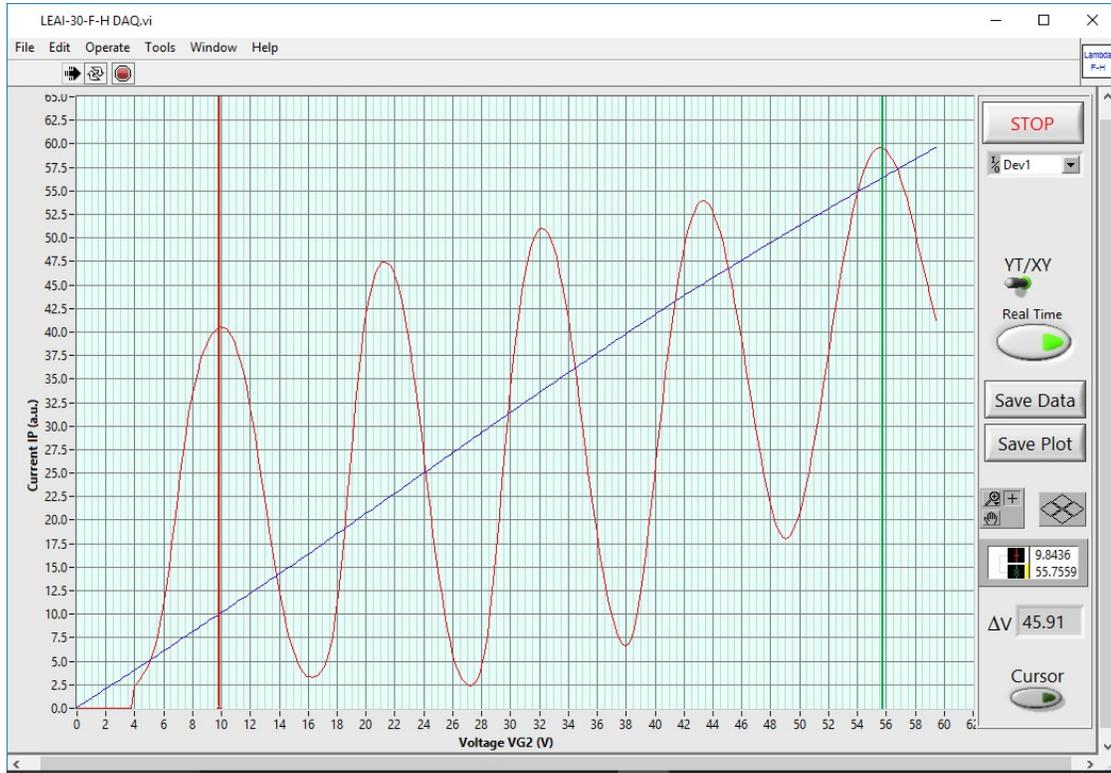

Figure 5 Experimental waveform acquired by software to PC
- 11) If the optional DAQ device is equipped, the corresponding data acquisition software named “LEAI-30DAQ” will be provided with this apparatus for PC use via a USB port. By running this software, the relationship curve between plate current (I_p) and accelerating voltage (U_{G2K}) can be acquired by PC as shown in Figure 5, in XY mode
or YT mode, respectively. An instruction for installing and using this program is given in Appendix. The waveform data shown in Figure 5 can be saved into a text file with a file extension of “txt”, which can be further imported to Excel for subsequent data processing and analysis.